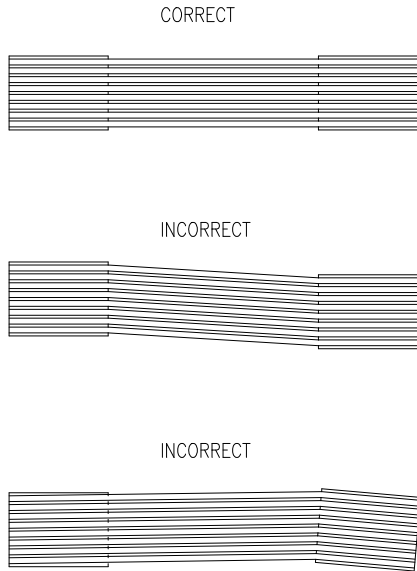

Figure 3.11. - Correct pulley alignment.
**RUNNING:** Avoid unnecessary thrusts on the bearings by ensuring that the shafts are parallel and the pulleys perfectly aligned (figure 3.11). Laterally misaligned pulleys, when running, transmit alternating knocks to the rotor and can damage the bearing housing. Belt slippage can be avoided by applying a resin type material such as rosin.